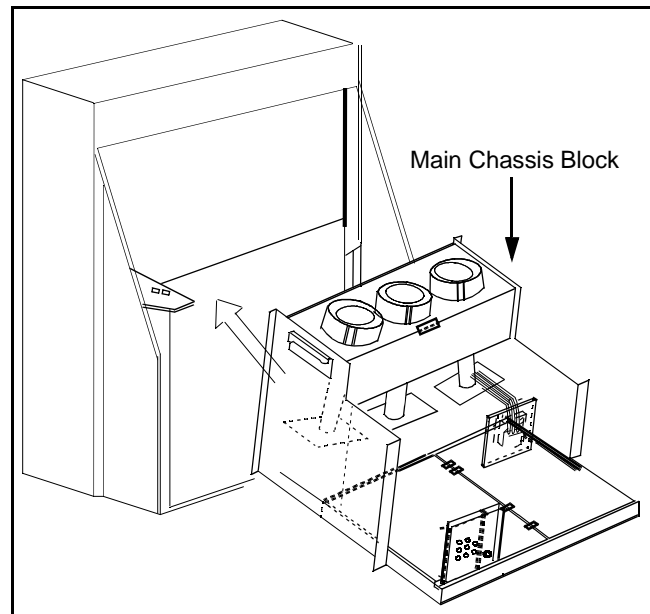

Figure 13. Chassis Removal (Light-Box)
(Figure 13)
1. Remove the main chassis block from the cabinet (Figure 13).